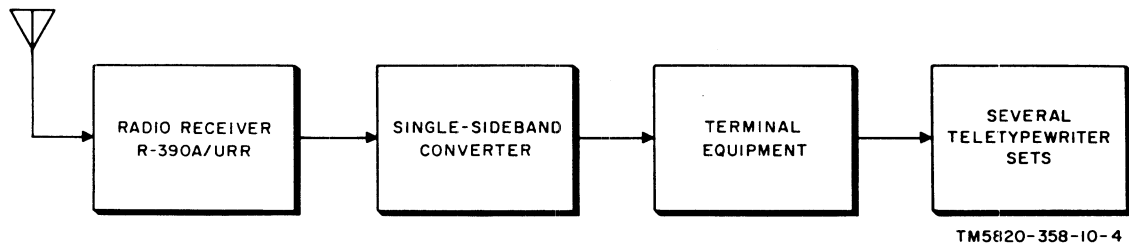

Figure 4. Single-sideband radio teletypewriter receiving system, block diagram.
*c. Single-Sideband Radio Teletypewriter System.* A receiver and a single sideband converter may be connected as shown in figure 4.